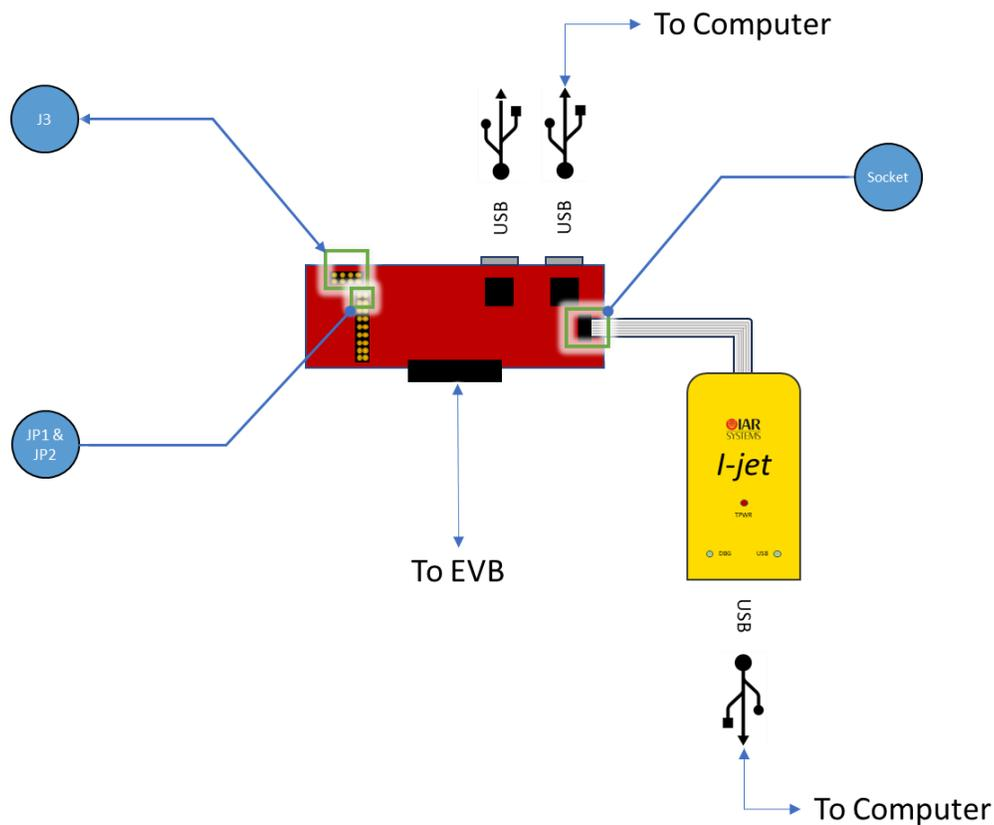

Figure 2 - Interface Board V3.x/V4.x/V5.x and I-jet Connections
- Figure 2 - Interface Board V3.x/V4.x and I-jet Connections
- i) Atmosic Interface Board V3.x, V4.x or V5.x, see Figure 2